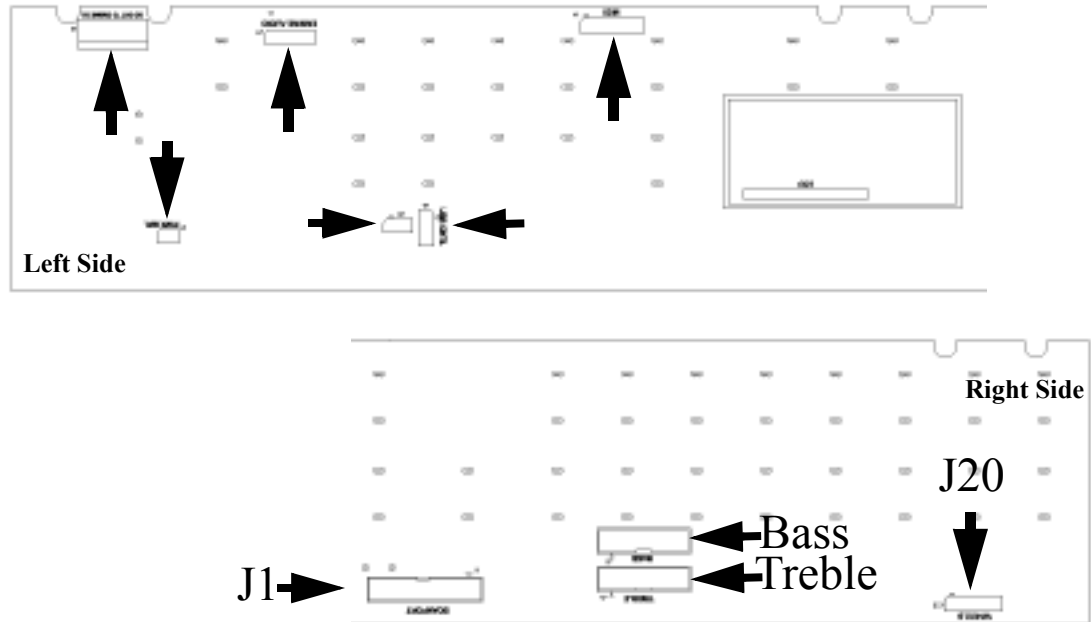

Figure 3-7 Front Panel Board Connectors Locations
3. Unplug the other ribbon cable that is bundled with the ribbon cable for the LCD board from the connector J1 (see Figure 3-7 below.) Unfasten the tape that holds these ribbon cables in place on the Front Panel Board. Leave the tape attached to these ribbon cables so that they can be properly secured again later.
4. There are two ribbon cables that connect the keyboard to the Front Panel Board. Use a marker to mark each of the ribbon cables for later reference. The cable coming from the left hand side of the keyboard is connected to the bass keys, while the cable coming from the right hand side of the keyboard is connected to the treble keys. Each cable is connected to a correspondingly named socket on the Front Panel Board (see Figure 3-7 above.) Unplug both of these ribbon cables from the Front Panel Board.
5. Remove the seven remaining cables that are plugged into the Front Panel Board (see Figure 3-7 above for connector locations.)
2. Each wheel is connected to three wires. Each set of three wires connects to the Front Panel Board using the same connector. Follow each set of wires from the wheels to their connector on the Front Panel Board. Note the placement of any wire ties holding the wires for the wheels. Cut these wire ties to remove the wires for the wheels and unplug the connector for the wheels from the Front Panel Board. For the wheels connector location, see J20 in Figure 3-7 on page 3-8.
2. Plug the wires for the wheels into the wheels connector on the Front Panel Board. For the wheels connector location, see J20 in Figure 3-7 on page 3-8. Any wire ties that were cut when the wheels were removed must be replaced. Use the notes you took to replace the wire ties and secure the wheels wires in the proper locations.